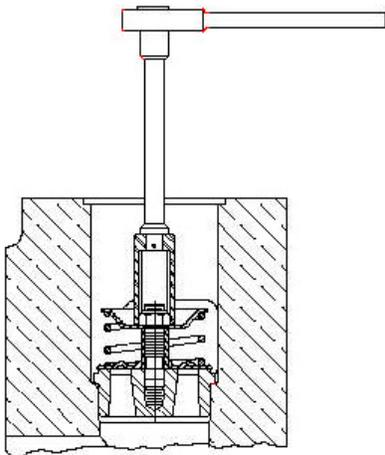

Figure 17
- b. Remove hex nut, spring retainer, spring, valve disc and sleeve. This leaves only the stud and seat. (See Figure 17).